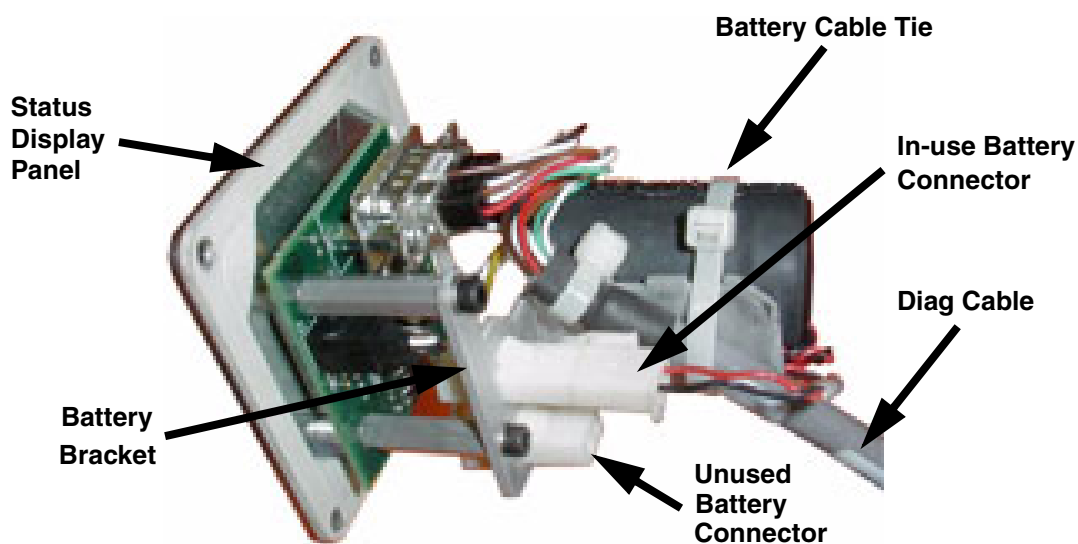

Figure 8-6. Battery Bracket on Status Display Panel
There is only one way to plug in the connector. See Figure 8-6.
- The “diag” cable must be cable-tied to the bracket (and battery) to relieve strain on the Status Display connector. See Figure 8-6.